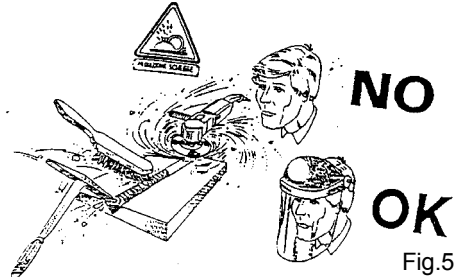

Fig.5
- When grinding, brushing, hammering, etc.. of welded parts, always wear protective goggles with transparent lenses to prevent splinters or other foreign particles from harming the eyes (Fig. 5).